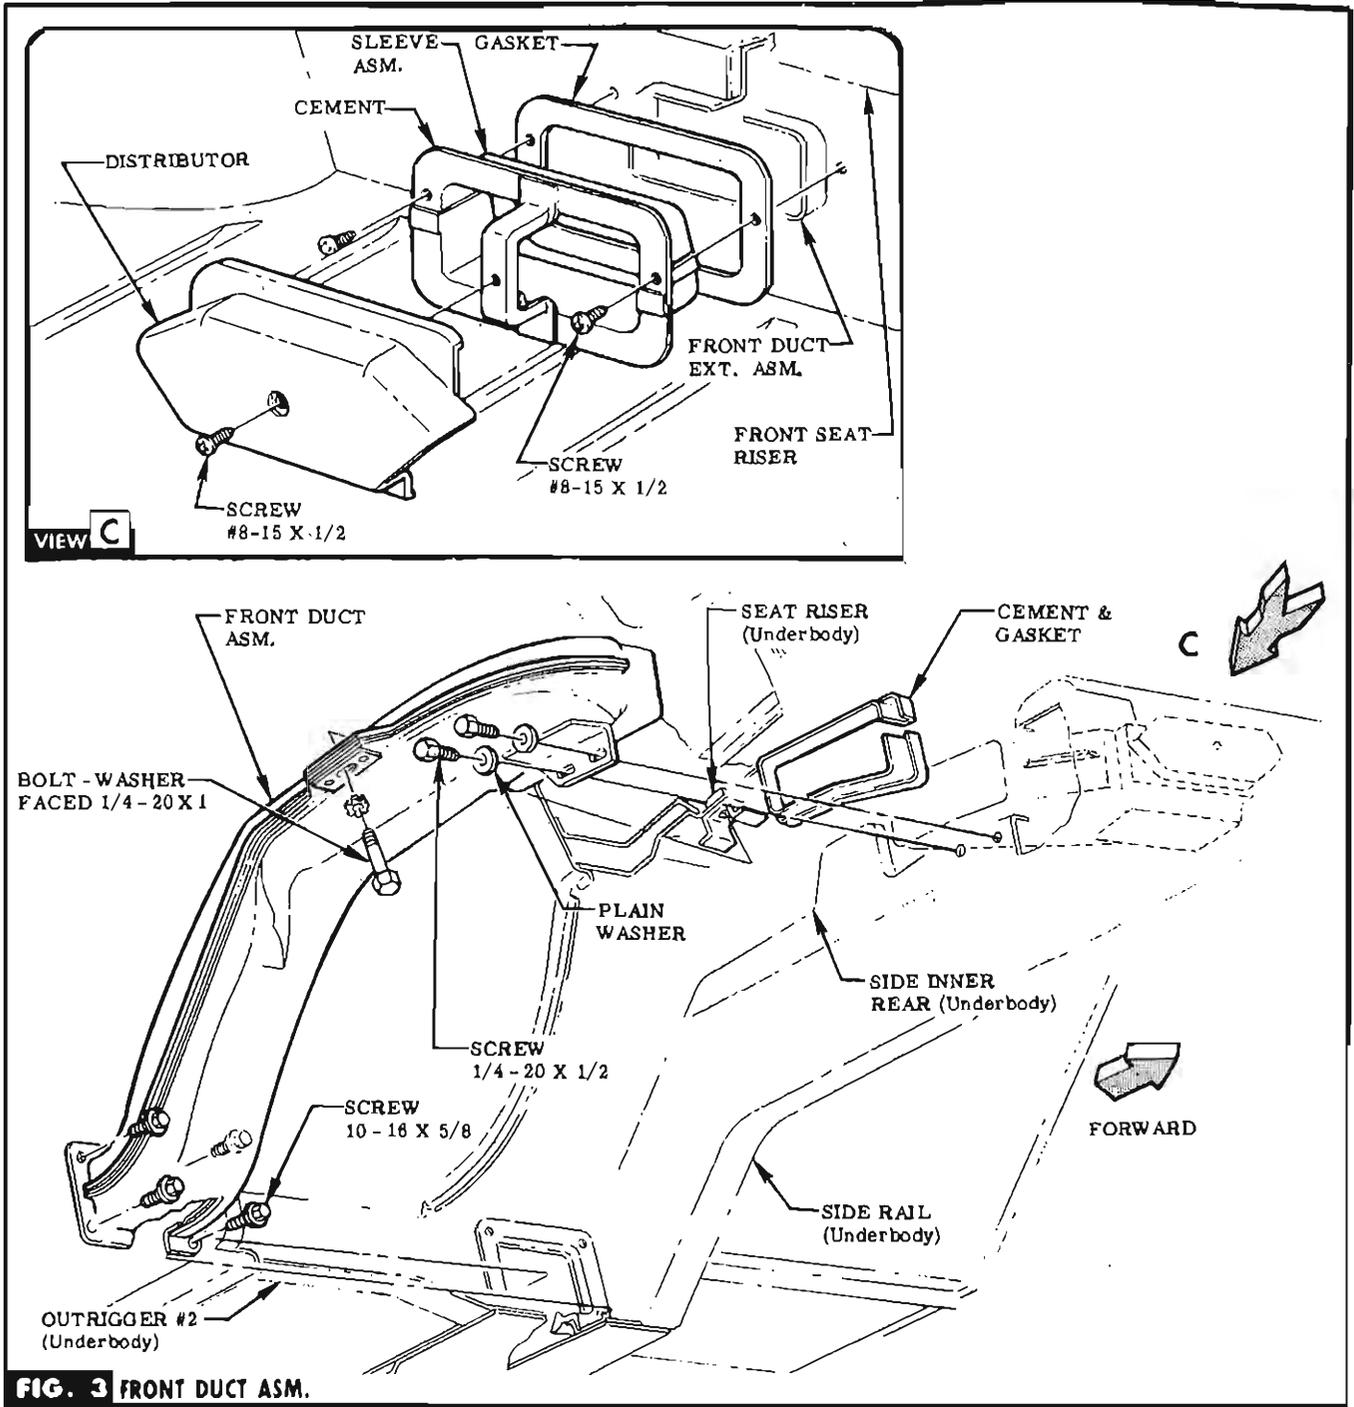

FIG. 3 FRONT DUCT ASM.
OPENING IN SIDE INNER RAIL & ATTACH WITH SCREWS & WASHERS PROVIDED (IN BAG B). SEE FIG. 3.
STEP 12 ALIGN FRONT DUCT ASM. TO OPENING IN OUTRIGGER #2 & ATTACH WITH SCREWS PROVIDED (IN BAG B). ATTACH FRONT DUCT ASM. TO SEAT RISER WITH BOLT PROVIDED (IN BAG B). SEE FIG. 3.